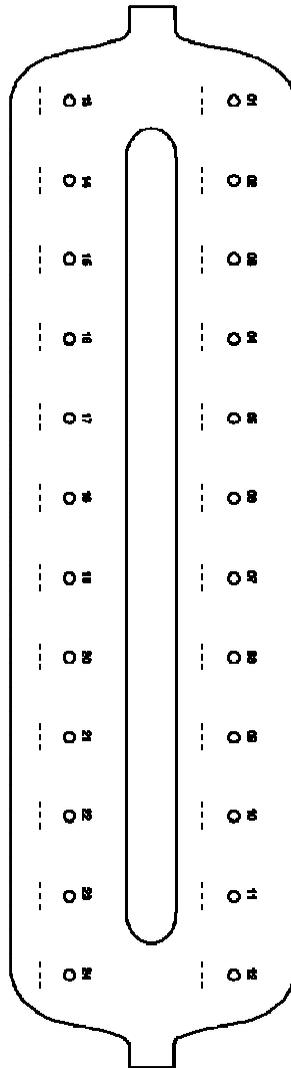

Figure 4. Labeling scheme for Lysis Tubes (LT), Elution Tubes (ET) and QIAamp MinElute Columns for use on the QIAvac 24 Plus vacuum system.
We recommend labeling the Lysis Tubes (LT), Elution Tubes (ET) and the QIAamp MinElute Columns for use on the QIAvac 24 Plus vacuum system according to the scheme in Figure 4 to avoid the mix-up of samples. This figure can be photocopied and labeled with the names of the samples.